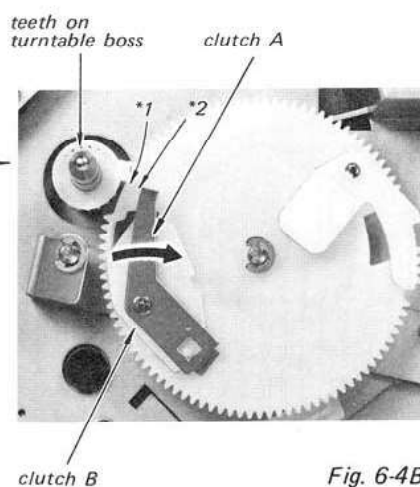

Fig. 6-4B
2. Reset: Move the clutch A and the clutch B in the direction of arrow as shown in Fig. 6-4B.
4. Turn the adjustment screw in Fig. 6-4D so that the portion shown by *1 of the center gear contacts the portion shown by *2 of the clutch A as shown in Fig. 6-4B.